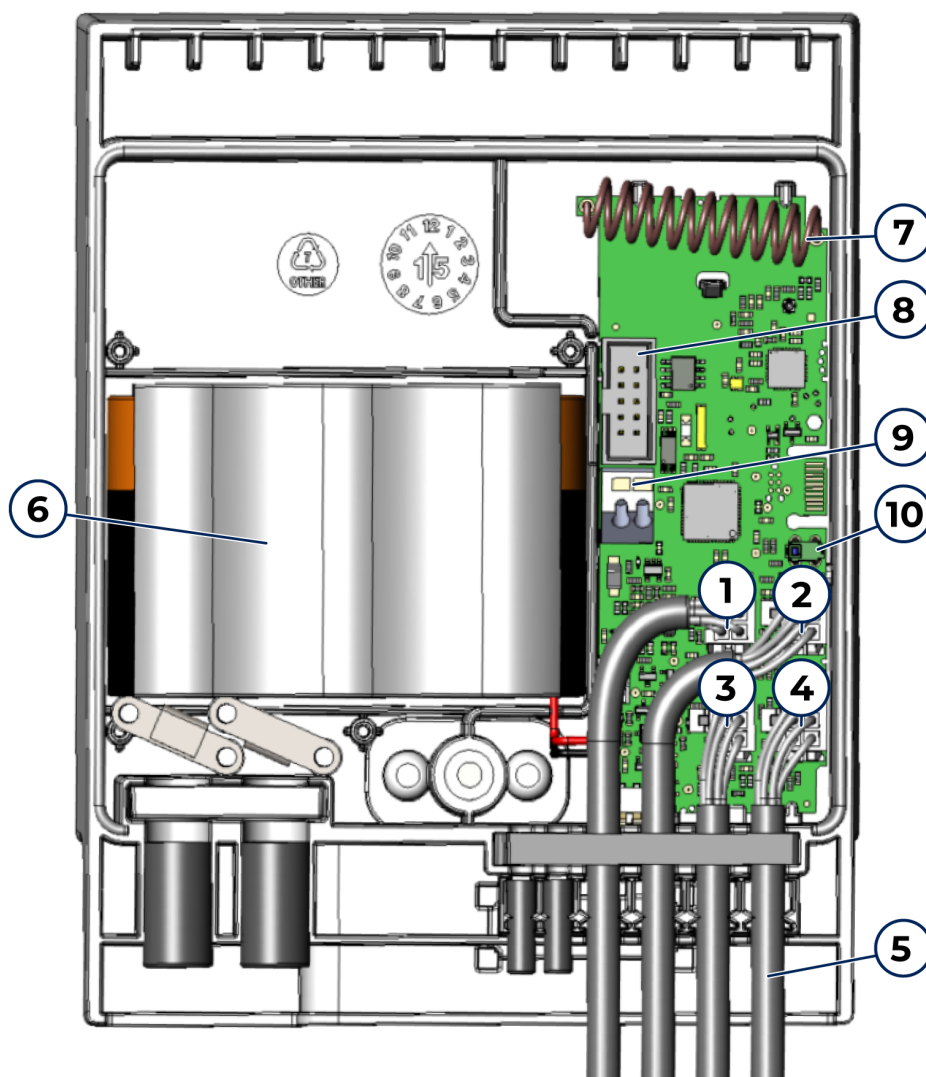

Figure 1: Installing cables to the meter unit EVH-RB
2. Install the cables in the order shown in Figure 1.